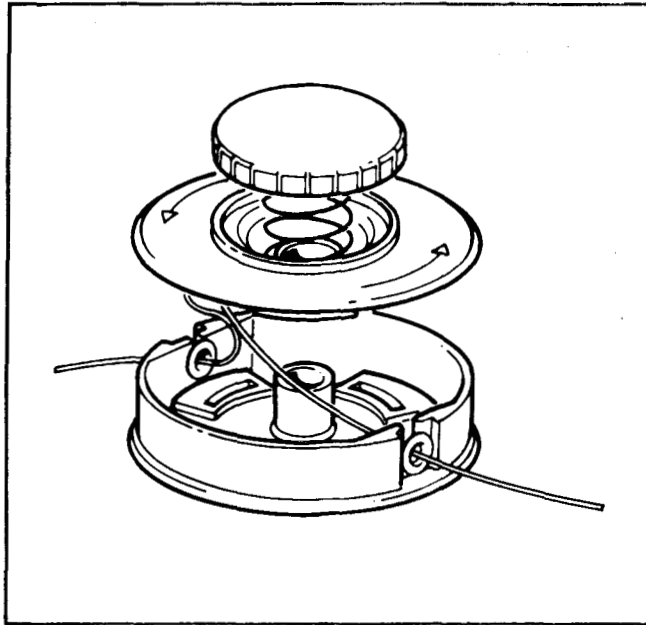

Figure 139
2. Insert one end of the line into each of the two eyelets and making sure that the line on the spool does not unwind. See Figure 139.